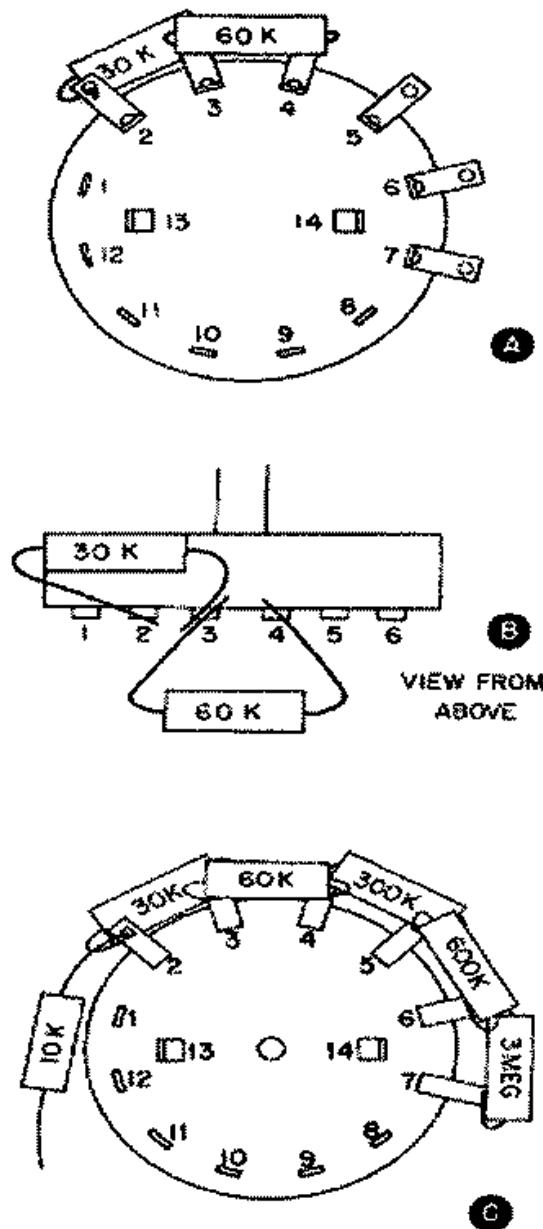

Figure 11 - (A) and (B) How to position the resistors in the range switch terminals; (C) Placement of the resistors connected to terminals 2, 3, 4, 5, 6, and 7.
When you have gathered these parts together, proceed with the following steps. When wiring the resistors to the switch terminals keep the leads short and the body of the resistor close to the terminals. However, do not let the body of a resistor touch other resistors, terminals or the metallic part of the switch. Use Figs. 11 and 12 to see how to position and wire the resistors. Before performing a step, read through the entire step to be sure you understand it. Check off each step as soon as you finish it, so you won't skip any.
- () Position the range switch as shown in Fig. 10A. Notice that the terminal numbers shown in the figure do not appear on the switch. You can position the switch either of two ways and it will be like it is shown in Fig 10A. Either way is permissible. Only after you bend down the proper terminals will the terminal numbers, shown in Fig. 10B, apply to your switch. Bend down terminals 2, 3, 4, 5, 6, and 7. Bend these terminals out nearly flat, but do not bend them too far as they can touch the metal part of the switch. Position the resistors on the range switch in Fig. 11.